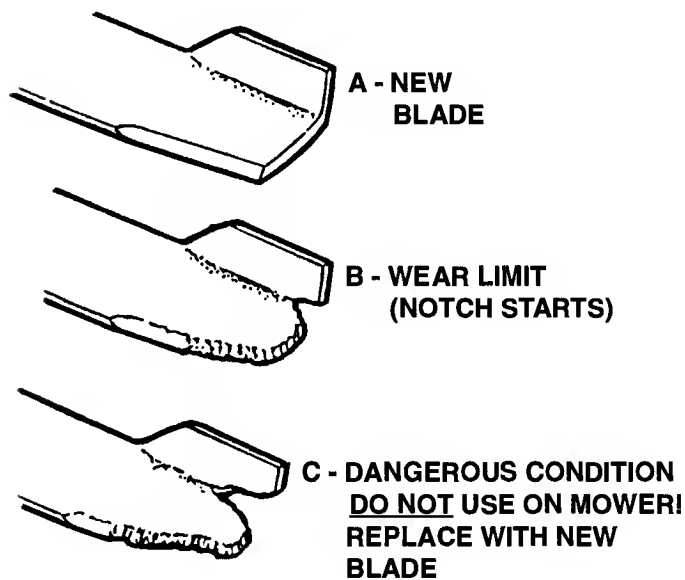

FIGURE 4.7
- A. When performing service on a mower unit, be sure to check the Cutting Blades for damage or signs of excessive wear. See Figure 4.7 for blade wear limits.
- C. Clean and inspect each Blade for excessive wear and damage. Refer to Figure 4.7.